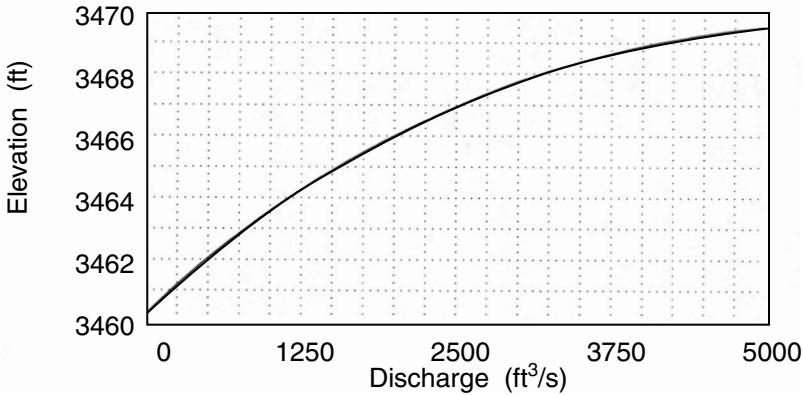

FIGURE D-3 Discharge rating curve.
**Discharge curve** A graphical representation of the relationship between discharge and a pertinent hydraulic property such as depth of flow or gage height. Same as rating curve and discharge rating curve. *See* Figure D-3.
**Discharge rating curve** Same as **discharge curve** or **rating curve**. See Figure D-3.
**Discharge velocity** In groundwater flow, it is the discharge per unit cross-sectional area, computed using Darcy's law. Also called **Darcy velocity** or **specific discharge** (2). See Equation (D-2).
**Discretization** (1) Subdivision of the model attributes into smaller elements, e.g., the model area into cells or the time domain into timesteps. It also refers to the use of discrete instead of continuous measurements, e.g., hourly flows or concentrations. (2) The process of entering field data into a computational model as a set of coordinates that allows the calculation of hydraulic parameters. (3) The process of converting the governing equations (usually continuous, partial differential) into algebraic equations to be solved by a computer.